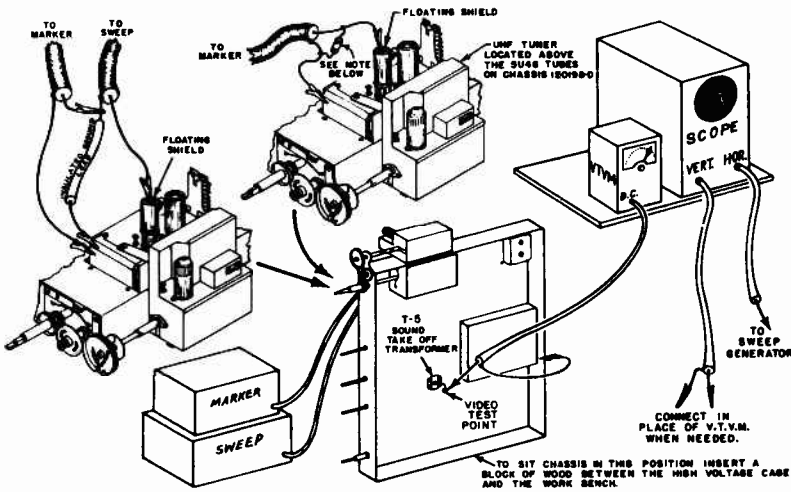

Figure 8. CONNECTIONS FOR I.F. ALIGNMENT
- 4) Connect terminated marker generator to floating shield of converted tube V-23 6J6. (Shield raised slightly so that it does not make contact with chassis). Use unmodulated marker. See Fig. 8.